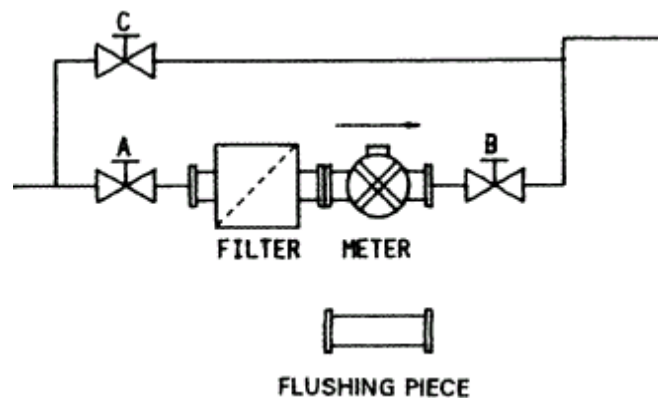

Fig. 17, Flow meter system with bypass
1. Close valves A, B and C (Fig. 17).